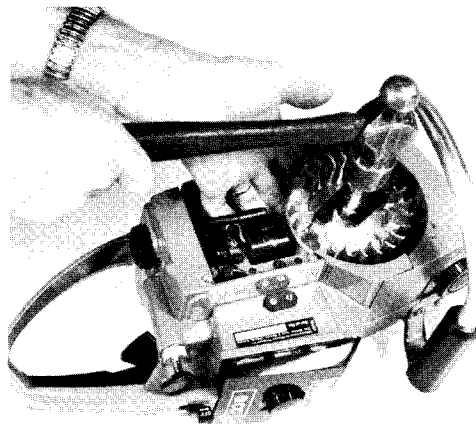

Fig. 27 — Removing Flywheel
c. Hold flywheel with one hand and strike bolt, Fig. 27.